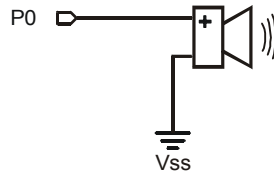
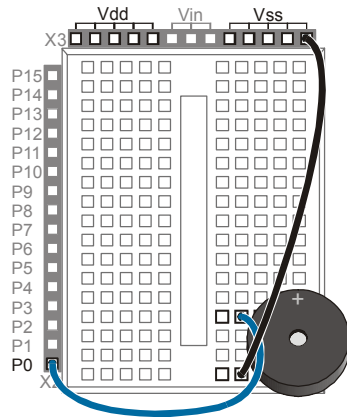

Figure 1-1
Figure 1-2
- √ Build the circuit shown by the schematic in Figure 1-1 and the wiring diagram in Figure 1-2.
- √ Verify that your piezo transducer is positioned the same as the one shown in the wiring diagram in Figure 1-2.